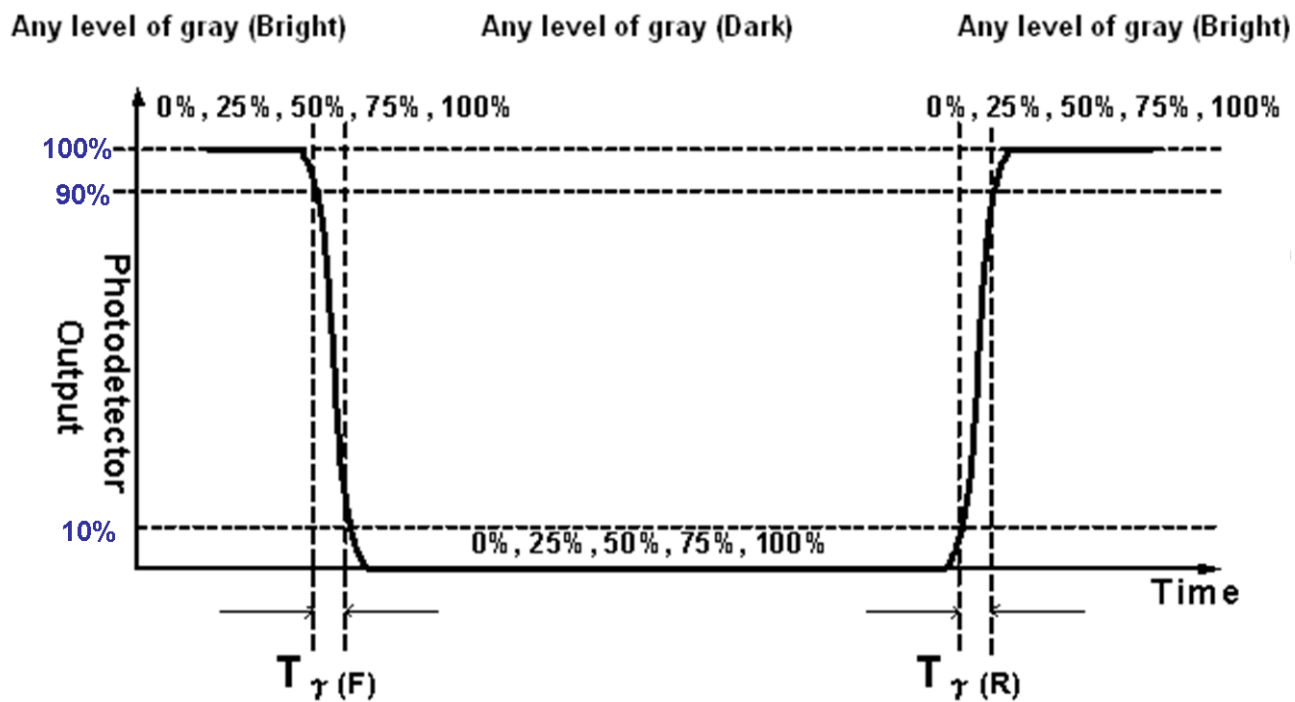

Fig. 2 Luminance
- Surface luminance is luminance value at point 5 across the LCD surface 50cm from the surface with all pixels displaying white. From more information see **Fig. 2**. LED current I_F = typical value (without driver board), LED input $V_{\text{DDB}} = 24\text{V}$, $I_{\text{DDB}} =$ Typical value (with driver board), $L_{\text{WH}} = L_{\text{on5}}$ where L_{on5} is the luminance with all pixels displaying white at center 5 location.